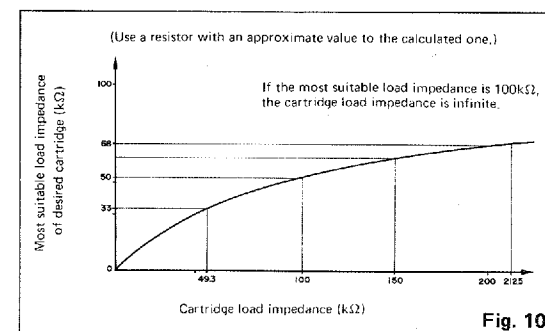

Fig. 10
* If you want to set an input impedance other than 47kΩ, 68kΩ and 100kΩ, you can calculate the impedance of cartridge load plug from the following formula and the graph shown in Fig. 10.